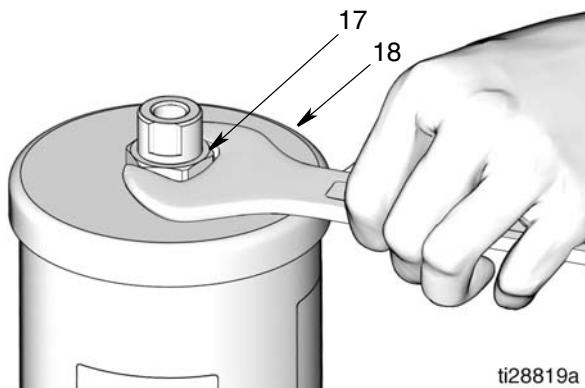

**FIG. 39**
Install reservoir gaskets (10) to top and bottom of reservoir (11) as shown in FIG. 39.
20. Install reservoir (11) in the air motor cylinder (3) (FIG. 39).
21. Install spring (15) inside reservoir (11) (FIG. 39).